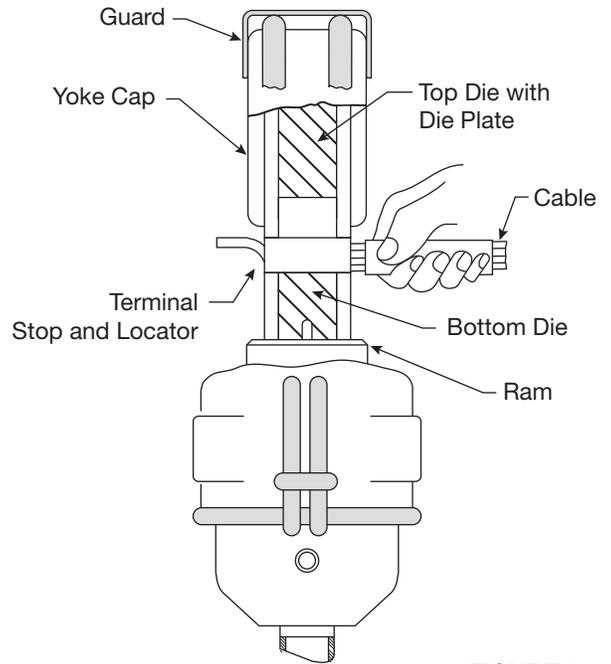

FIGURE 5
- 2) Place terminal, with wire inserted, in the movable die and push terminal up against the terminal locator (if available) and crimp (see Figure 5).